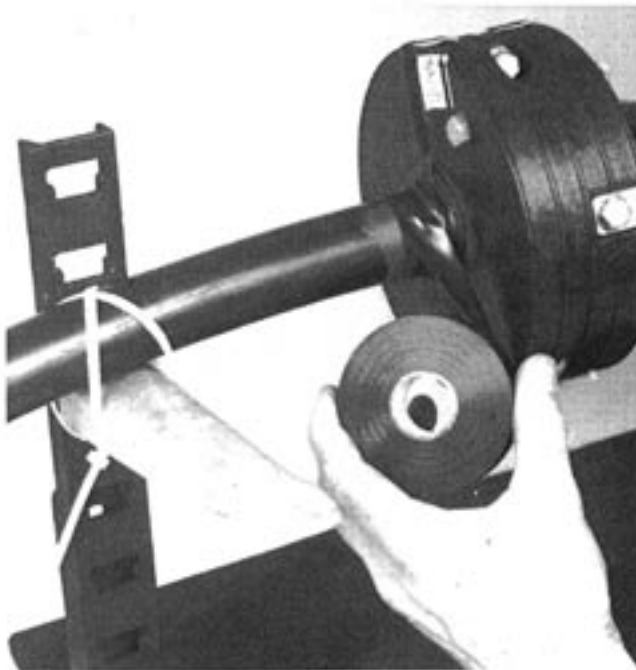

Figure 26 — Application of Vinyl Tape to Cable
9.09 Apply two wraps of vinyl tape over exposed LOCK-TAPE™ Sealant on cables. Figure 26